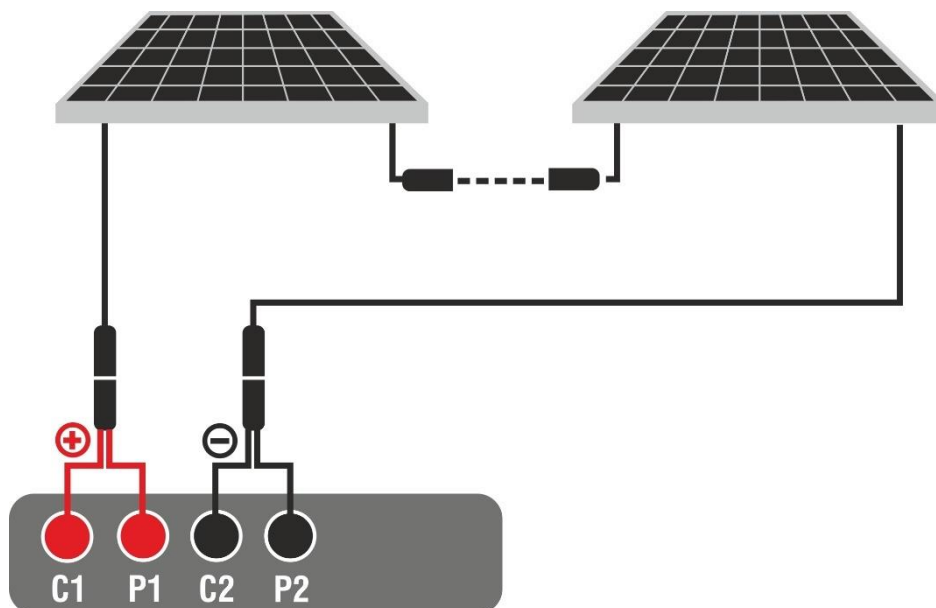

Fig. 57: Connection for IVCK tests without remote unit
3. Connect the instrument to the module/string being tested as shown in Fig. 57. In particular, connect the Negative pole of the module/string to the **P2, C2** terminals and the Positive pole from the module/string to the **P1, C1** terminals